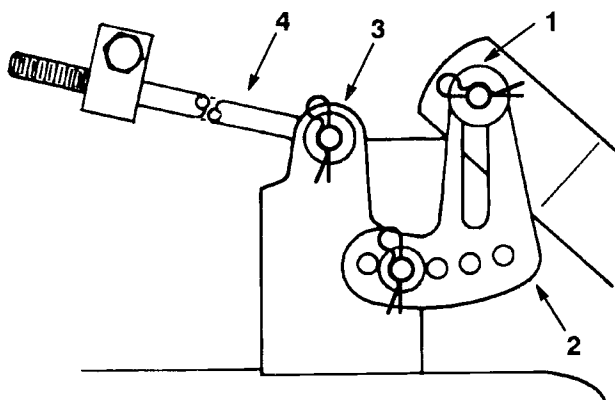

Figure 41
- Remove the hair pin cotter and washer at the top of the mower leveling bracket (Fig. 41). Now slide the bracket off the mounting pin. Repeat this step on the opposite side of the mower.
- Remove the hair pin cotter and washer from the end of the long rod (Fig. 41). Now slide the rod out of the mower mount. Repeat this step on the opposite side of the mower.